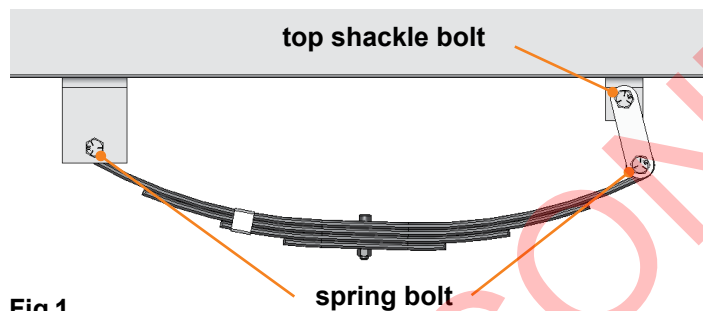

Fig.1
4. Using an additional floor jack to support the axle, remove the lower spring bolts first, then remove the top shackle bolt (**Fig. 1**). Do this on both sides.